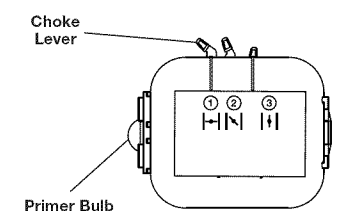

Fig. 12
2. Fully press and release the primer bulb 10 times, slowly. Some amount of fuel should be visible in the primer bulb (Fig. 12). If fuel cannot be seen in the bulb, press and release the bulb until fuel is visible.
3. Move the choke lever to **Position 1** (Fig. 12).
5. **Do not squeeze the trigger.** Move the choke lever to **Position 2** (Fig. 12).
8. Continue to squeeze the trigger. Move the choke lever to **Position 3** (Fig. 12) and continue warming the engine for an additional 60 seconds. The unit may be used during this time.
6. **Do not squeeze the trigger.** Move the choke lever to **Position 2** (Fig. 12).
10. Continue to squeeze the trigger. Move the choke lever to **Position 3** (Fig. 12) and continue warming the engine for an additional 60 seconds. The unit may be used during this time.